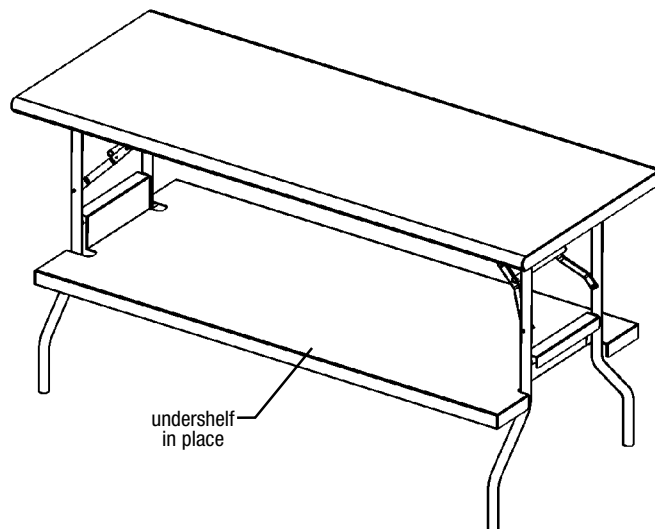

figure 2
- Repeat on remaining end of table, as shown in *figure 2*. Undershelf is now in place.